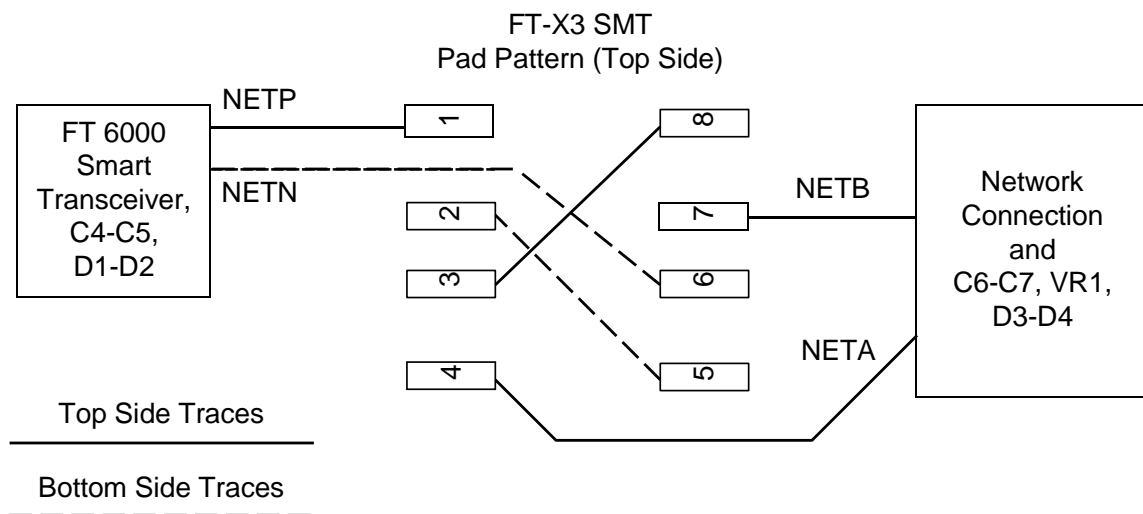

Figure 50. Recommended PCB Layout for FT-X3 Transformer
Note that the electrical connections for the FT-X3 Communications Transformer shown in **Figure 50** differ from the connections shown in the schematic for the FT 6000 Evaluation Board that is included with the IzoT NodeBuilder Development Tool. The connections described in this data book are the *preferred* connections for the FT-X3 Communications Transformer.
Figure 50 shows the recommended PCB trace layout for the FT-X3 Communications Transformer for a two-layer PCB.
- The component callout letters refer to the callouts used in **Figure 50** and **Figure 51**.